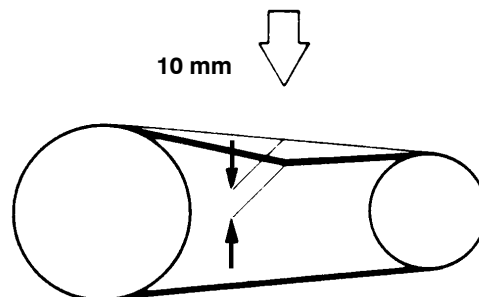

Abb. 40 Checking V-belt tension
- The best tension for a belt drive is the lowest possible, where the belt under full load does not slip. A rough value for this is when the belt deflects **10 mm** when pressed with thumb pressure between the two pulleys (Abb. 40). For best results we recommend our v-belt tension meter, part no. N25238.
- Adjust motor until the belt tension is correct (see Abb. 40).